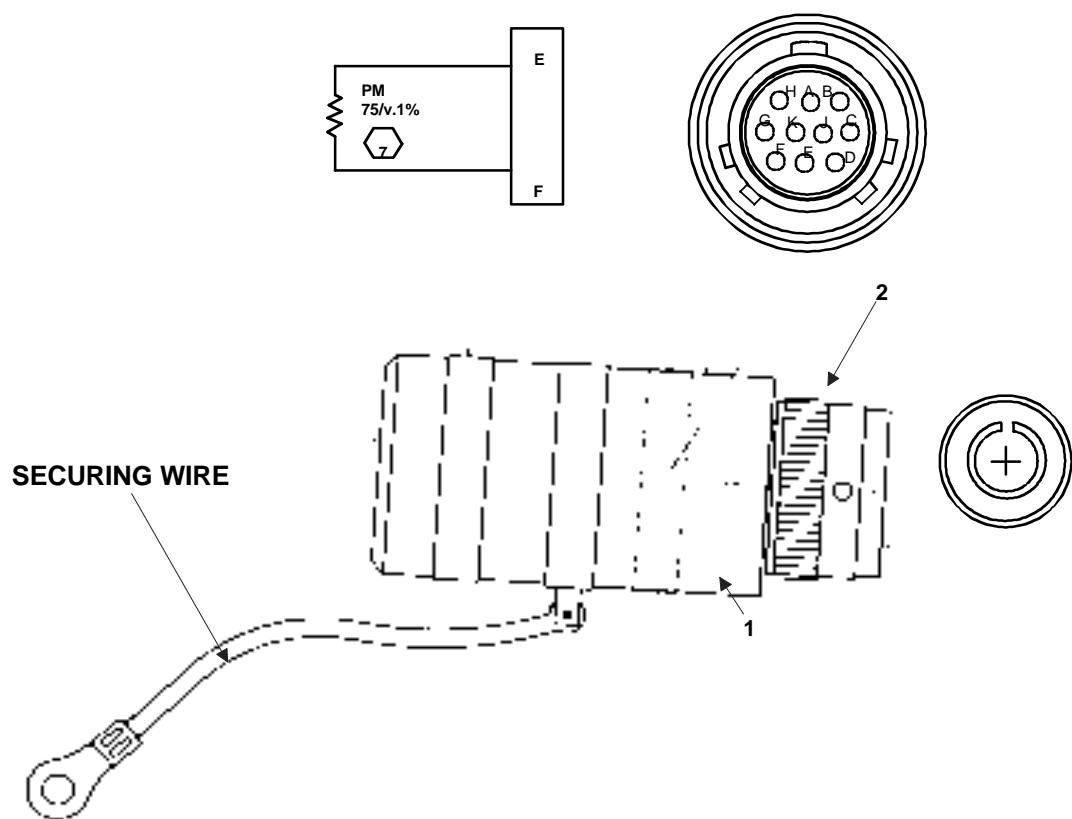

Figure 3-10. 1553 Termination, P/N 12979006
3.4.4. General Repair Requirements. Refer to Figure 3-10. Repair or replace connector as follows:
- g. Using small wire brush, clean sealing compound residue from threads of connector body (2) and shorting cap (1).
- h. Apply primer to threads of connector body (2) and shorting cap (1).
- i. Apply sealing compound to threads of connector body (2) and shorting cap (1).
- j. Install shorting cap (1) on connector body (2) and torque to 3.7 ft lb (5 N.m).
3.4.5. Inspection. Refer to Figure 3-10. Inspect 1553 Termination as follows: